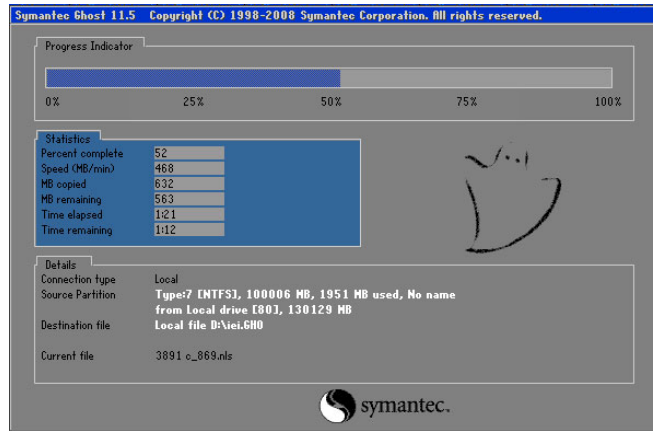

Figure B-28: Image Creation Complete
Step 8: The Symantec Ghost starts to create the factory default image (**Figure B-28**).